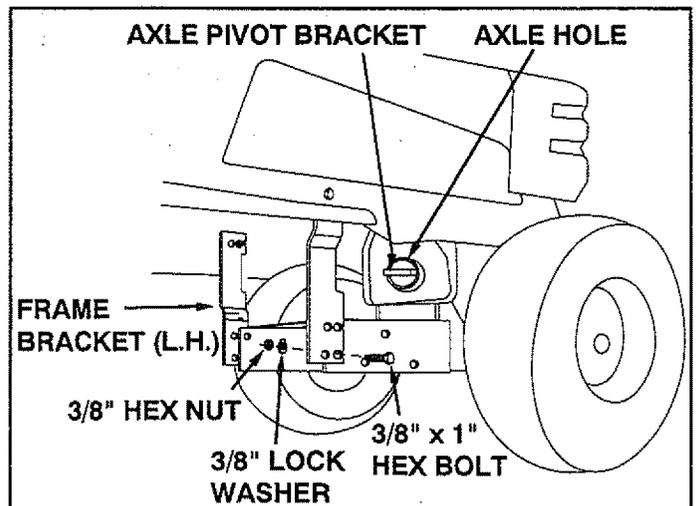

FIGURE 10 (Right Hand Side View)
- Attach blade frame assembly to the tractor frame by inserting the axle pivot bracket into the hole in the center of the axle. See figure 10.
- Attach the blade frame assembly to frame brackets (R.H. and L.H.) using the bottom front hole on each bracket and the bottom rear holes on both sides of the frame assembly. Use two 3/8" x 1" bolts, 3/8" lockwashers and 3/8" lock nuts. **Do not tighten.** See figure 10.